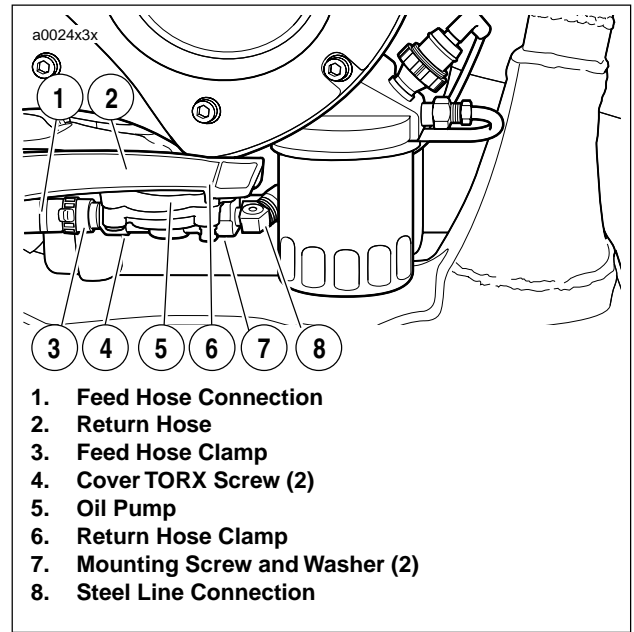

Figure 3-91. Oil Pump Hardware
3. See Figure 3-91. Disconnect feed hose and oil filter hose connection.
6. See Figure 3-91. Remove cover TORX screws. Lift cover off body.
9. See Figure 3-91. Attach return hose connection.